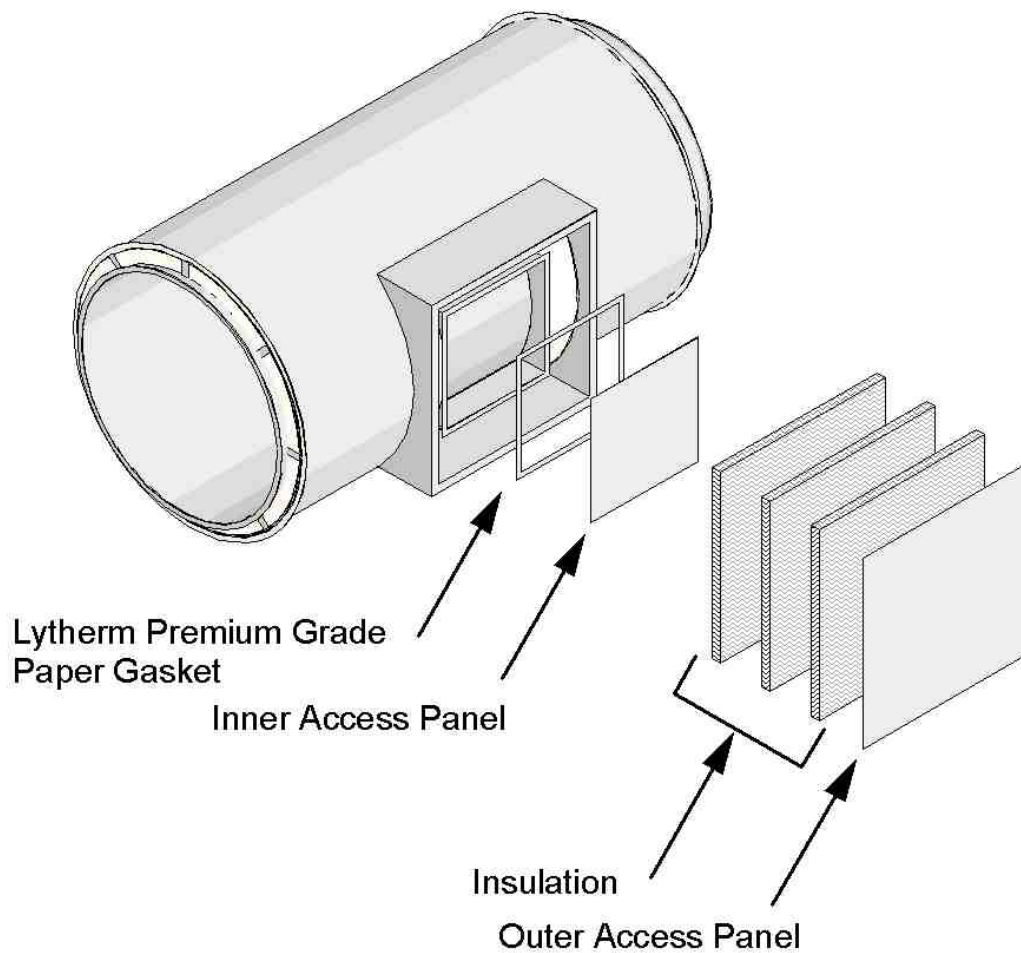

Figure 4. Access Door Assembly
D. Access Door: Reference Figure 4. When required, use a Grease Duct section pre-equipped by manufacturer with access door assembly having a max. 20 in. x 20 in. opening at the inner access panel and three layers of nominal 1 in. thick insulation or two layers of nominal 1-1/2 in. thick insulation of the same type and